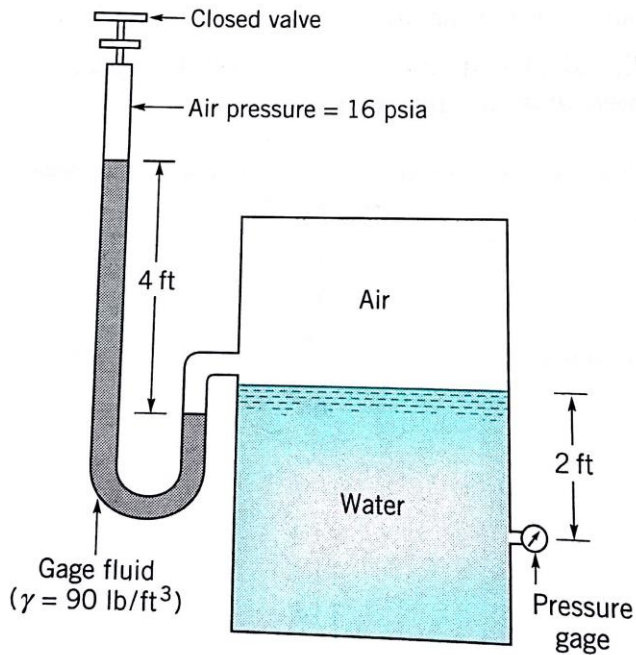

FIGURE P2.28
2.28 A U-tube manometer is connected to a closed tank containing air and water as shown in Fig. P2.28. At the closed end of the